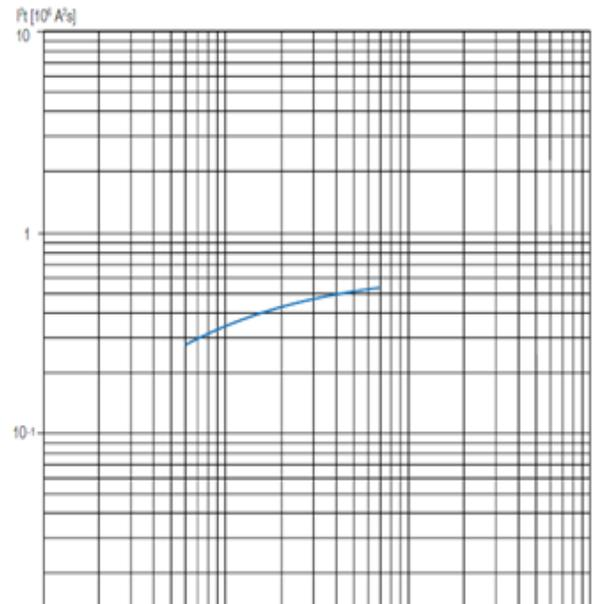
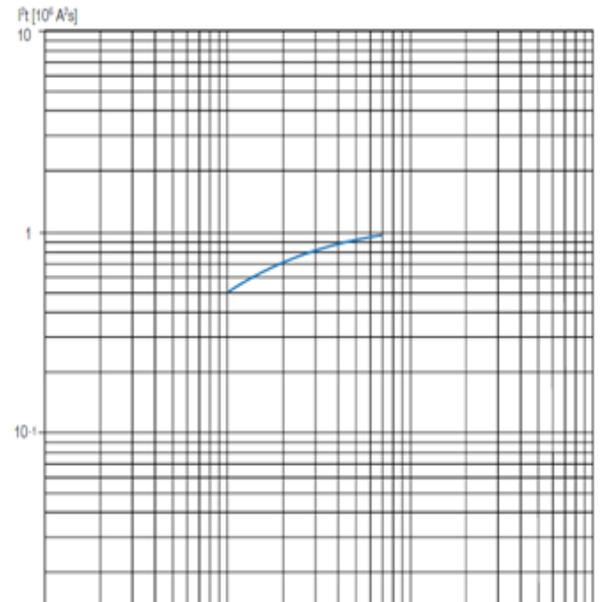

Figure 2 - XT2H 480V Specific Let-through Energy Curve
Figure 8 – XT4H 480V Specific Let-through Energy Curve
The Tmax XT3 circuit breaker is a standard or non-current-limiting circuit breaker with continuous current ratings ranging from 60 to 225 amps. Using the standard (S) interrupting rating of 35kA @ 480 volts, the specific let-through energy is 2.42×10^6 A²s. Figure 2 shows the Tmax XT2H, applied at the same 35kA @ 480 V, has a specific let-through energy of approximately 0.48×10^6 A²s, which is about one-fifth (20 percent) of the let-through energy of the Tmax XT3. For load requirements greater than 125 A, the Tmax XT4H (figure 8) protects up to 250 amps and has a let-through energy at 35kA - 480V of 0.85×10^6 A²s. While this is considerably higher than the let-through energy of the Tmax XT2, it is still only about one-third (33 percent) of the let-through energy of the standard Tmax XT3 non-current limiting circuit breaker. This substantial reduction in energy greatly reduces the thermal and electrodynamic forces to which the system is subjected during a short-circuit event, providing more protection to the equipment, when needed.